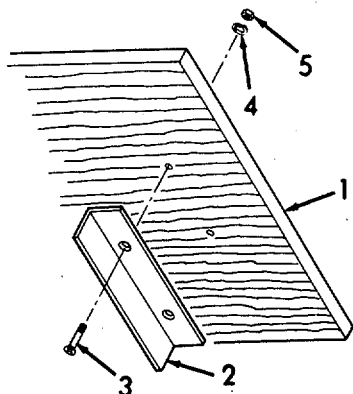

Figure 5-22. Button Sewing Machine Tray, Installation.
f. *Installation.* (Refer to Figure 5-22).